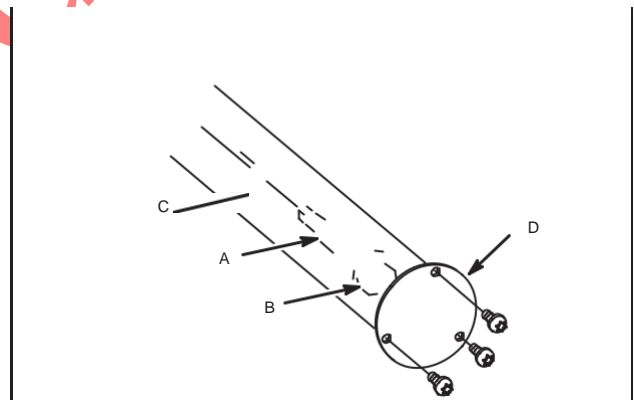

Fig. 16 – Install Oil Pump
3. Lubricate oil pump components with engine oil and as-semble to sump, Fig. 16. Make sure drive shaft is en-gaged in camshaft.